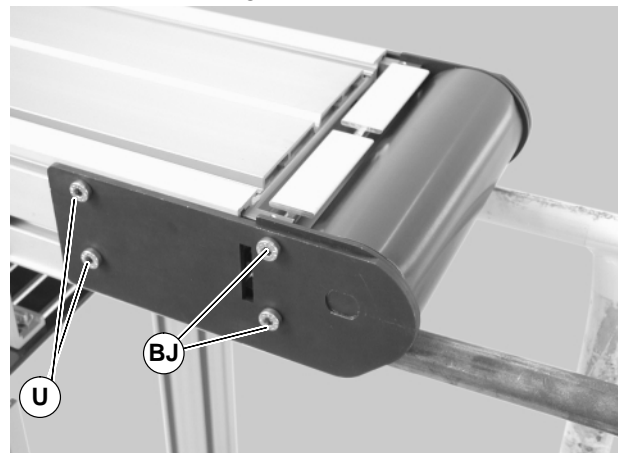

Figure 53
- On one side of conveyor, loosen the two (2) back fastening screws (U of Figure 53) and remove two (2) front fastening screws (BJ).